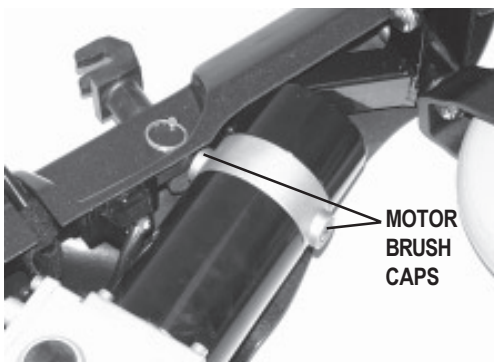

Figure 37. Motor Brush Caps
2. Unscrew the motor brush caps. See figure 37.